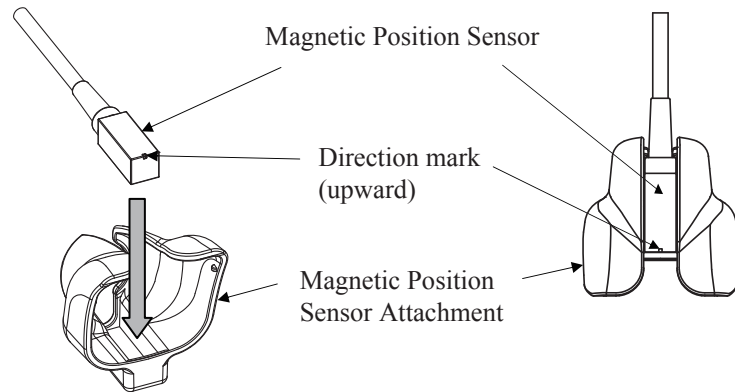

Figure 16 How to attach Magnetic Position Sensor
- (1) Place the magnetic position sensor into the magnetic position sensor attachment. The direction mark of the sensor is upward as shown in Figure 16.